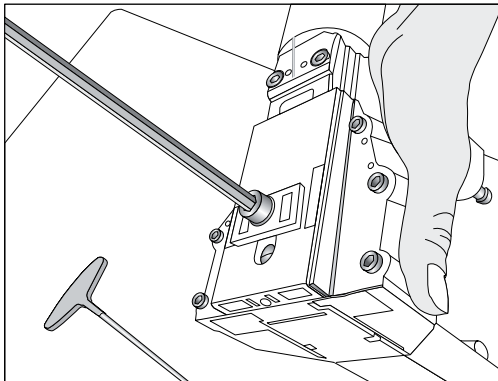

Figure 7
1. Loosen front screw with a 6 mm Allen wrench. (See Figure 7)